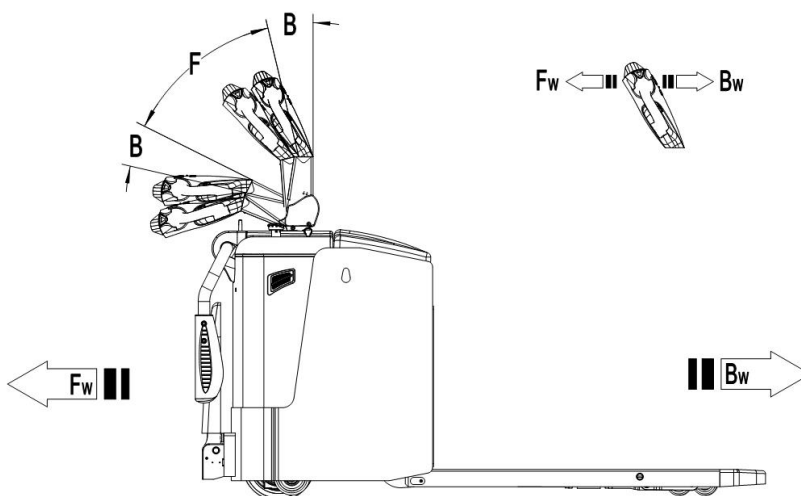

Fig. 13: Operating direction
After starting the truck by turning on the key switch (15), move the tiller to the operating zone ('F', fig.13).
Turn the accelerator button to the desired direction forward 'Fw.' or backwards Bw.'(fig. 13)